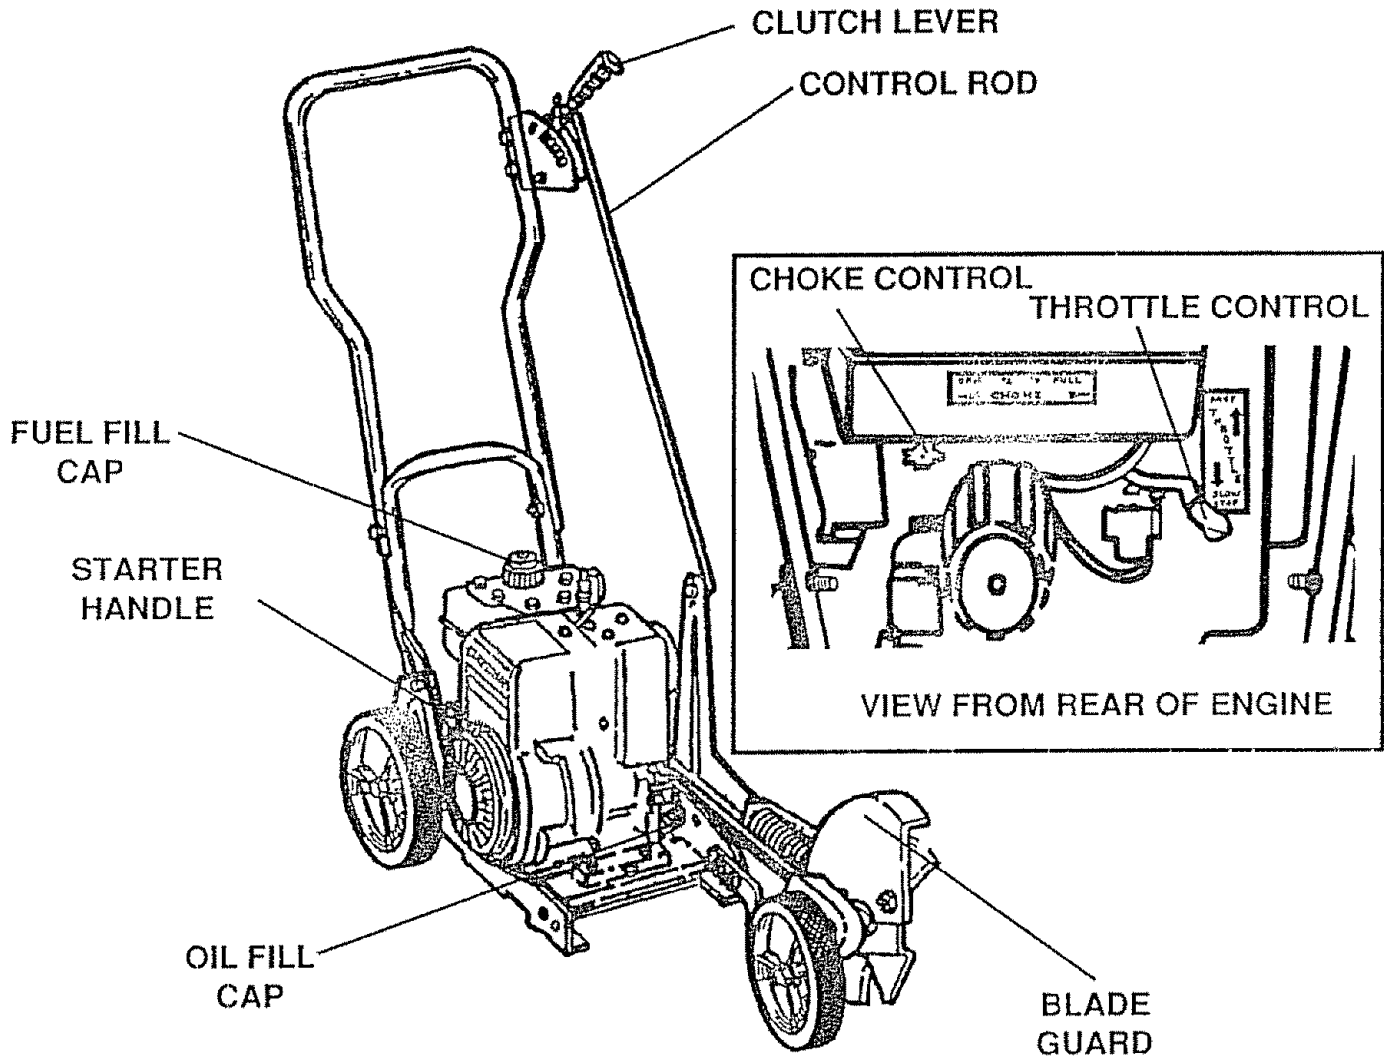

FIG. 6
- Move the clutch lever into all five (5) positions in the selector plate. Make sure the clutch lever snaps into all five (5) holes. (Fig. 6)
- Move the throttle control lever (See Fig. 6) to the FAST position.
- Move the choke control lever (See Fig. 6) to the Full choke position.
WARNING - AVOID THE MUFFLER AND SURROUNDING AREAS (SEE FIG. 6). TEMPERATURES MAY EXCEED 150° F.